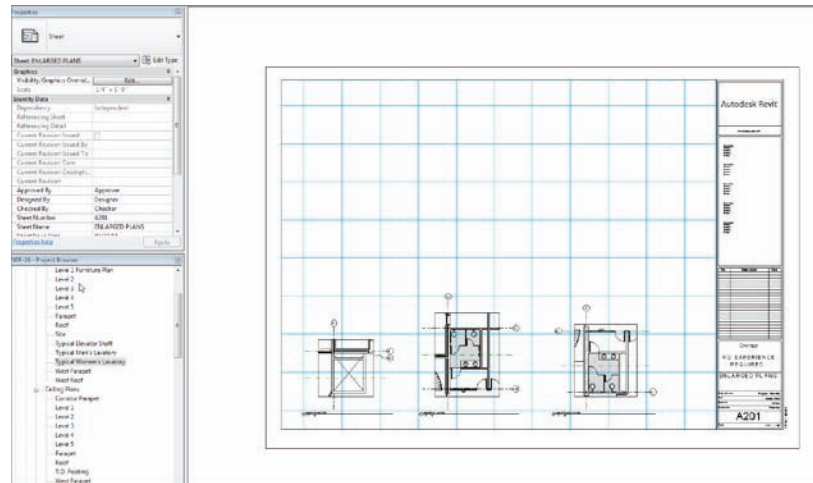

FIGURE 14.8 Creating a sheet and adding views in a row across the bottom of the page
10. Arrange them so they're in a row, as shown in Figure 14.8.